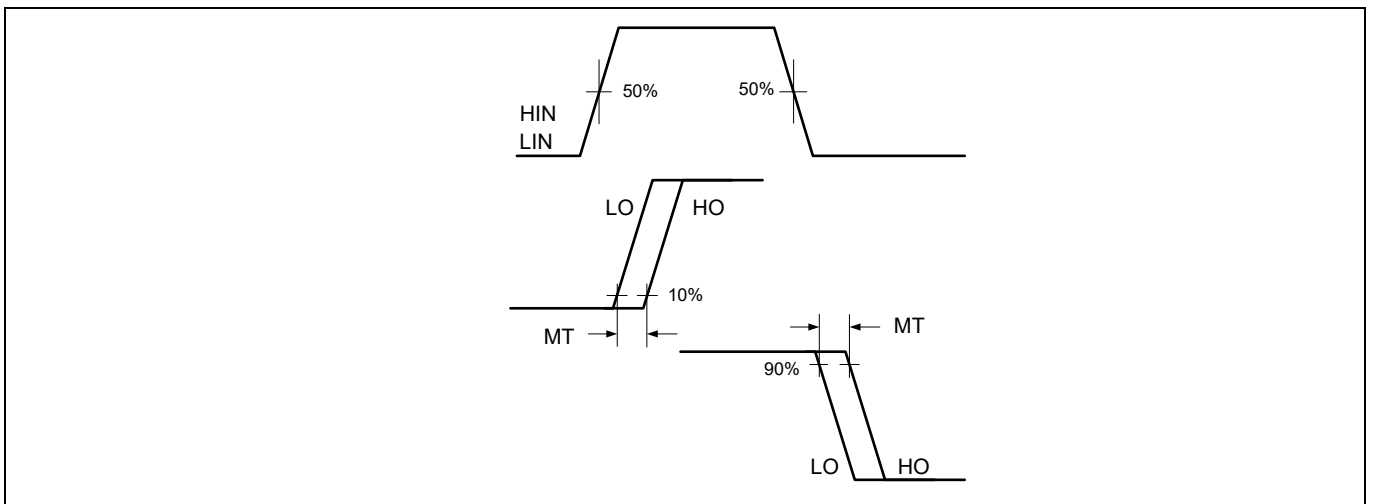

Figure 5 Delay matching waveform definition
IGI60L1111B1M is designed with propagation delay matching circuitry. With this feature, the integrated gate driver IC's response at the output to a signal at the input requires approximately the same time duration (i.e., t_{ON} , t_{OFF}) for both the low-side channels and the high-side channels as shown in **Figure 5**. The maximum difference is specified by the delay matching parameter (MT). The propagation turn-on delay (t_{ON}) of the integrated gate driver is matched to the propagation turn-off delay (t_{OFF}).